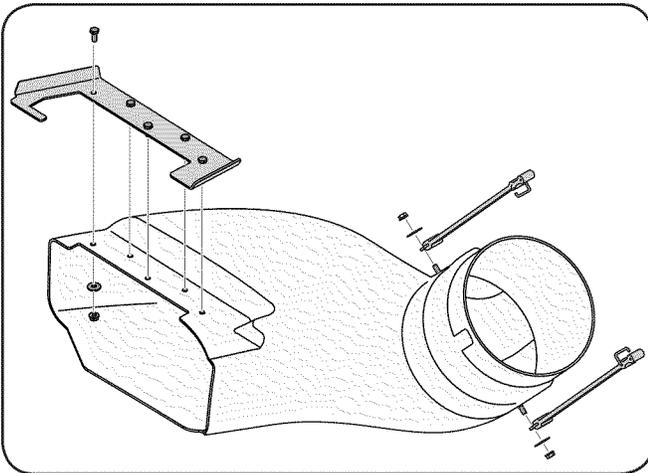

Figure 4-17
1. Insert five 710-0751 Hex Bolts from Hardware pack 689-00147A down through the Boot Mount plate and Chute Elbow. See Fig. 4-17.
3. Attach the two 723-0476 rubber chute straps to the chute elbow by inserting a 710-0751 hex head screw from hardware pack 689-00147A, through the chute elbow from the inside, then through the looped end of the chute strap, and secure with a 736-3092 flat washer and 712-3027 flange lock nut. See Fig. 4-17.